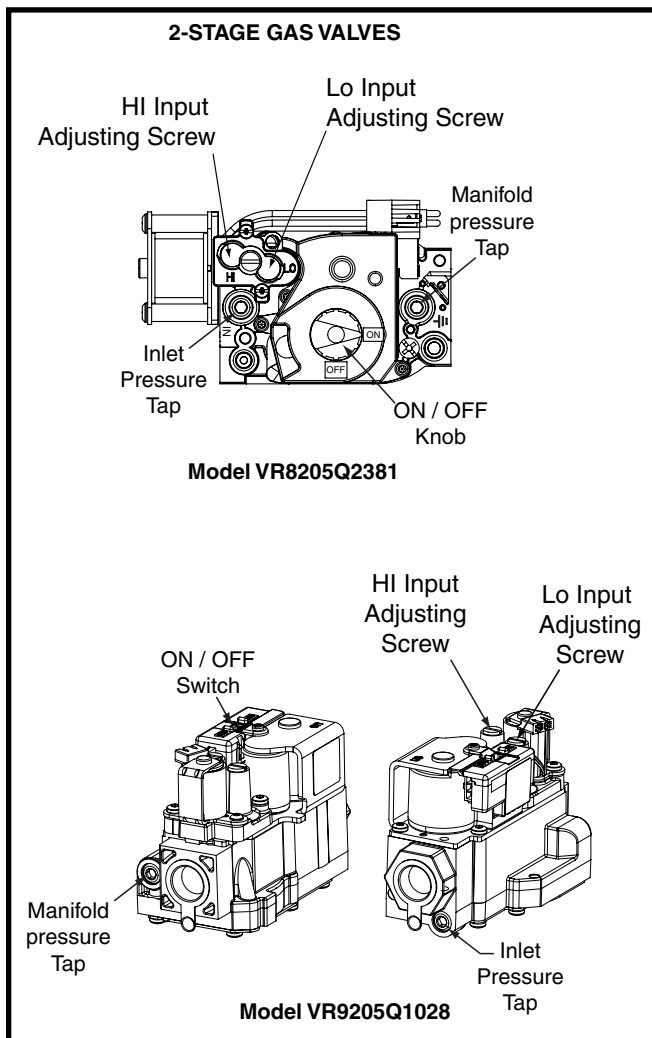

Figure 27. HI & LO Input Adjusting Screws
- c. Using an Allen wrench, turn the the LO Input Adjusting Screw on the LO side of the regulator to adjust the reduced input setting or turn the HI Input Adjusting Screw on the side of the regulator to adjust the full input setting. See Figure 27 \(page 28\). **NOTE:** Turning the adjusting screw clockwise increases the pressure and counterclockwise reduces the pressure.